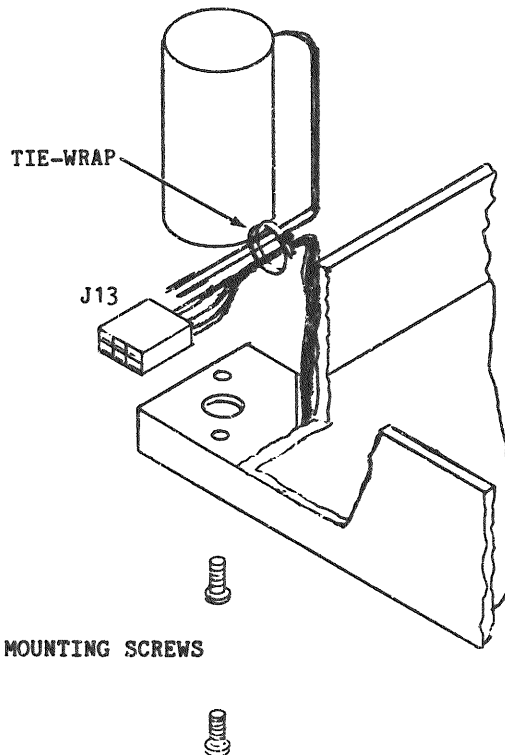

Figure 6-3. Spindle Drive Motor
- g. Attach the cable connector to J13 on the PCBA, and then tie-wrap the cable as indicated in Figure 6-3.